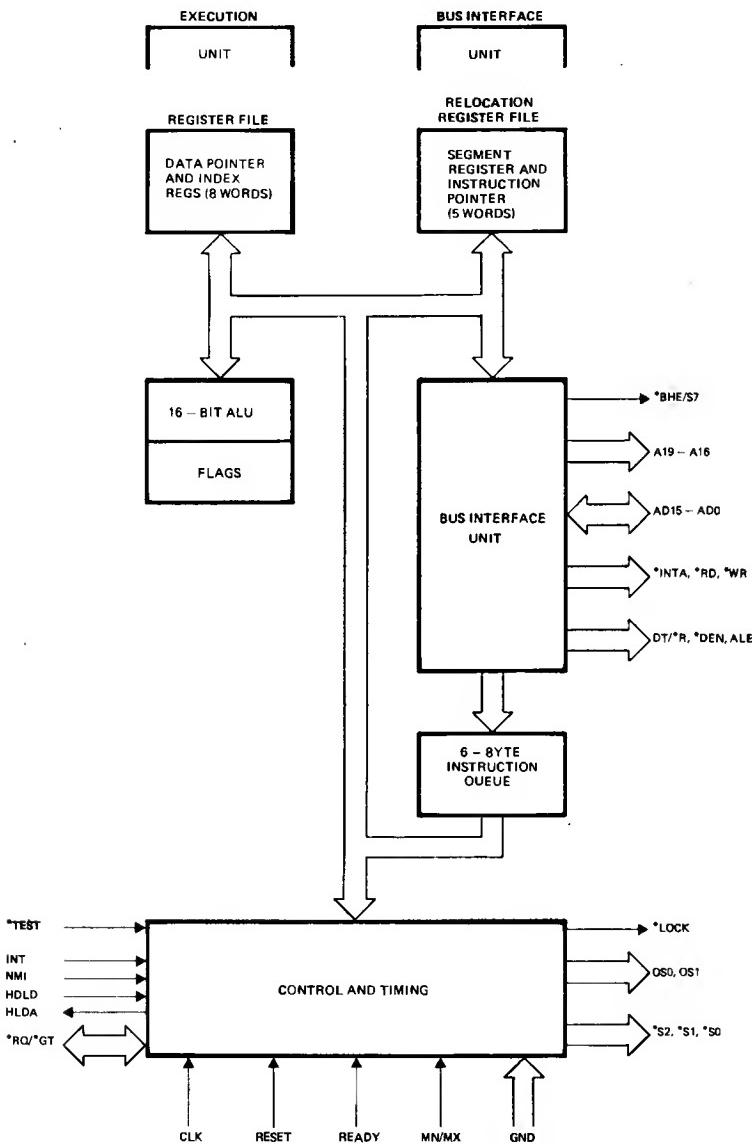

Fig. 2-56 8086 Block Diagram
The 8086 is the primary element of the AP8 1086. This processor has attributes of both 8 and 16 bit microprocessors. The internal functions of the 8086 processor are partitioned logically into two processing units. The first is the Bus Interface Unit (8IU) and the second is the Execution Unit (EU). Figure 2-56 shows a block diagram of the 8086 CPU.